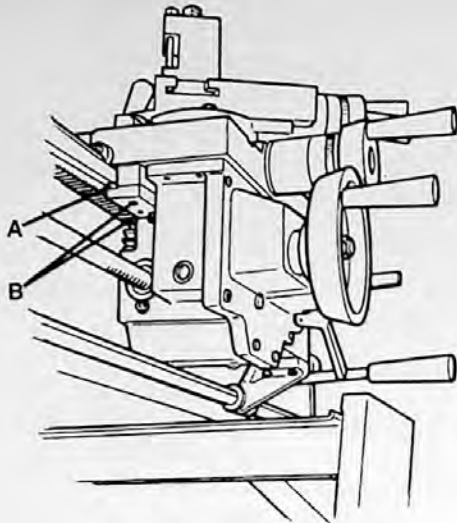

FIGURE 23
Four gibs, located directly under the saddle wipers, are provided to compensate for wear. The gibs (A, figure 23) are adjusted by set screws (B) located in the gib brackets. The two rear brackets and the left front bracket have three set screws each; the right front has two.